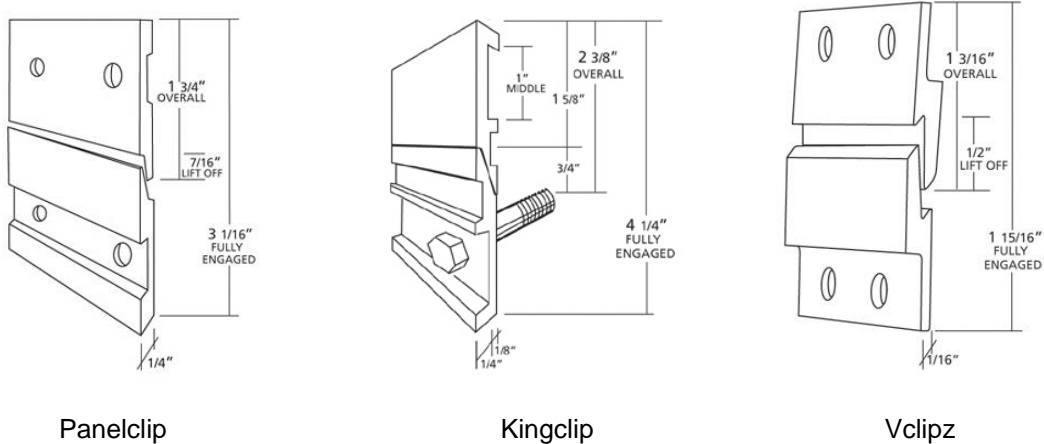

Figure 2 – Clips recommended by Fiberesin
- B. Three types of clips: Panelclip, Kingclip, and Vclipz (Figure 2)